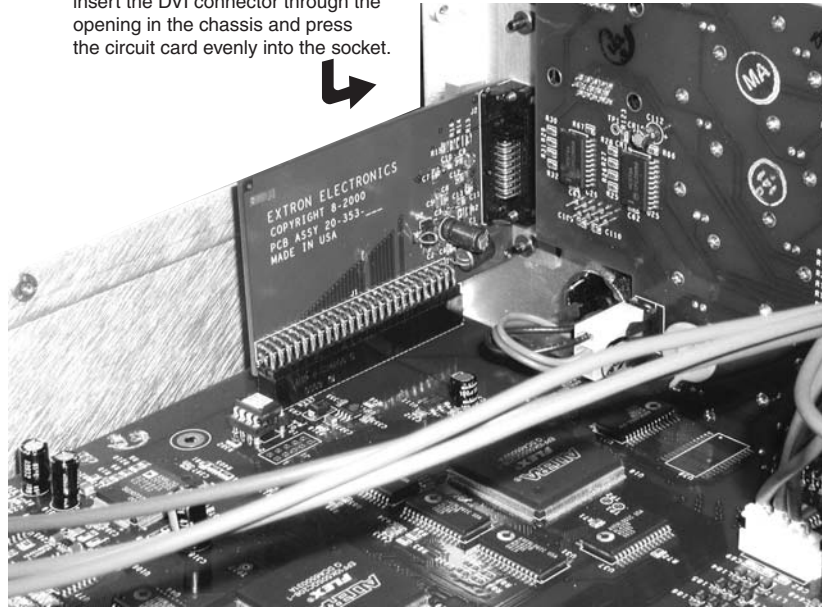

Figure B-2 — Installing the DVI connector option
1. Remove the two screws that hold the DVI connector cover in place (figure B-2), and set the cover aside. You will not need it.